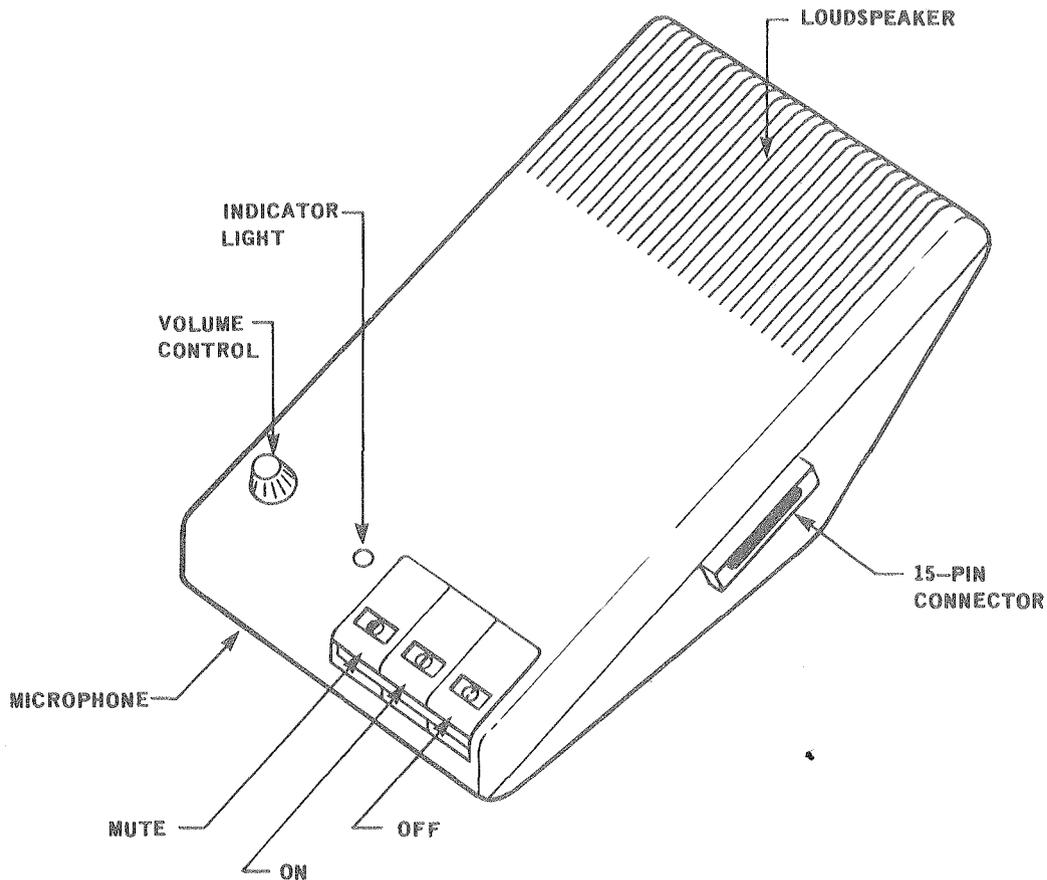

Fig. 1 — LOGIC Hands-Free Unit
1.01 The LOGIC hands-free unit (Fig. 1) permits voice-switched, hands-free conversation with LOGIC telephone sets.